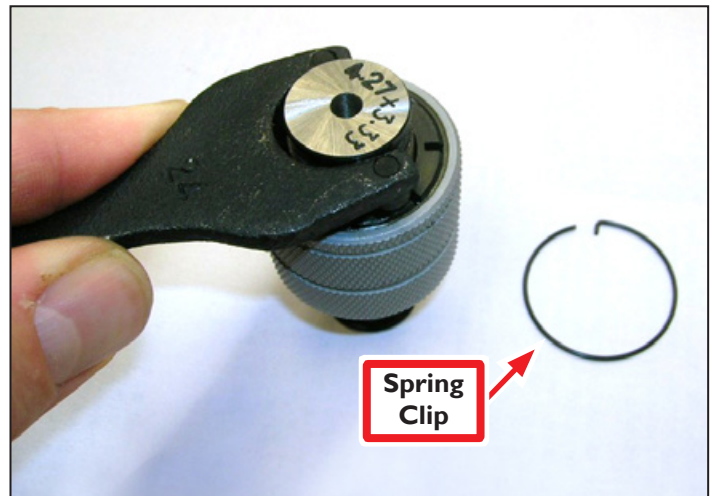

Figure 12
1. To tighten the slip adjustment, carefully remove the Spring Clip from the collet and use pin spanner wrench (included) to tighten or loosen the adjustable nut (see **Figure 12**).